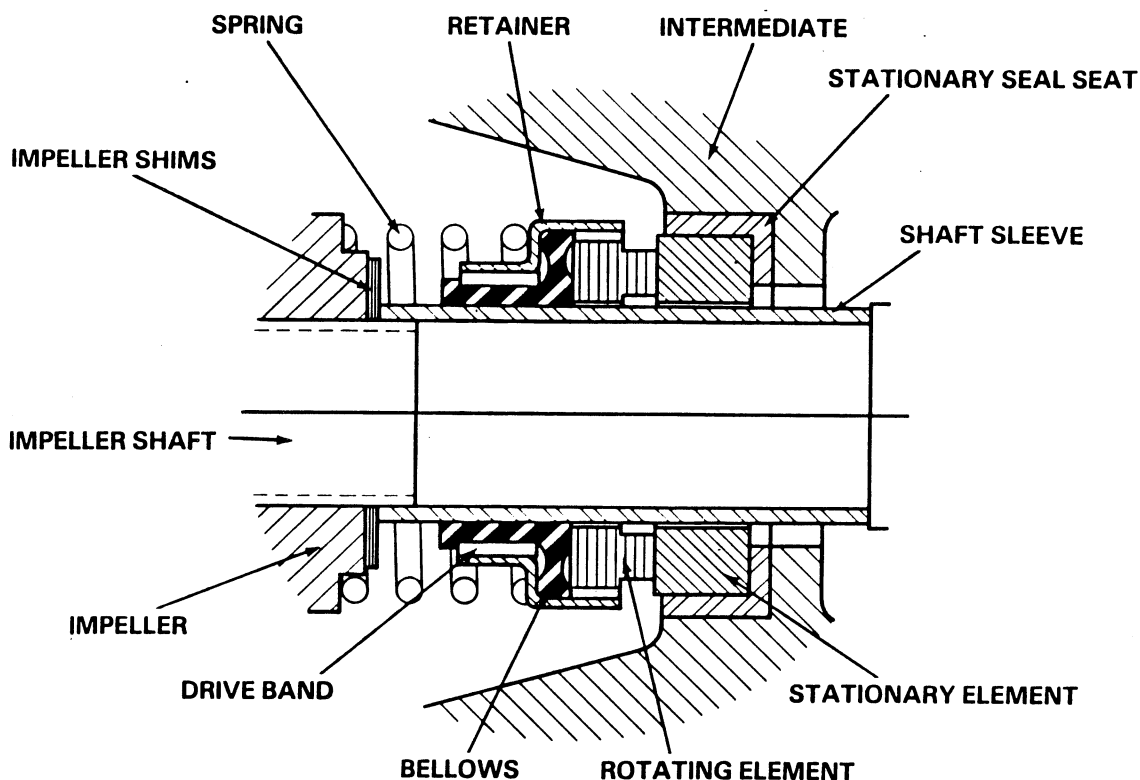

Figure 3. S01575 Seal Assembly
To ease installation of the seal, lubricate the shaft sleeve (15) with water or a very **small** amount of oil, and apply a drop of light lubricating oil on the finished faces. Assemble the seal as follows, (see Figure 3).